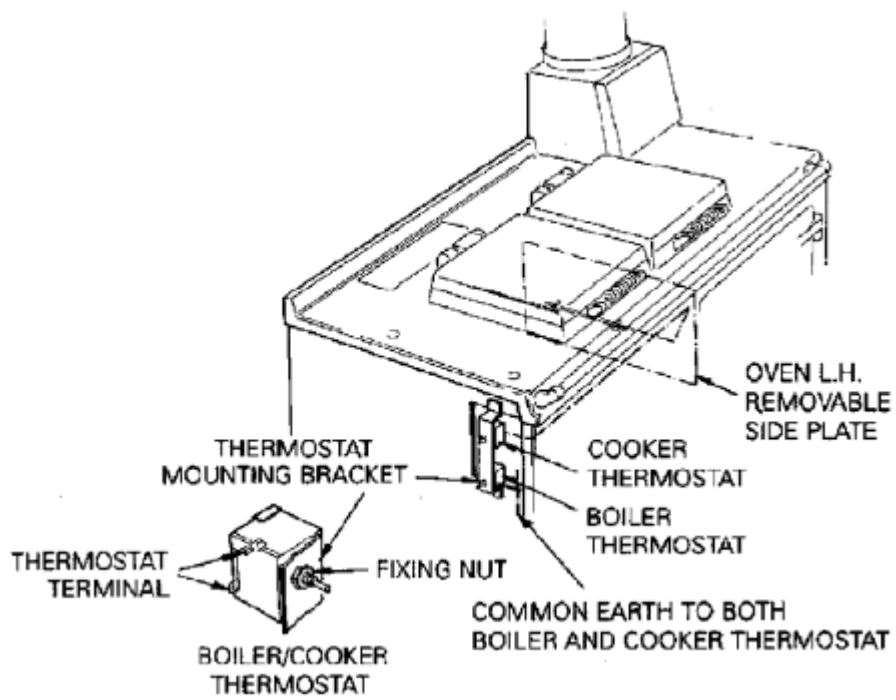

Fig.24 DESN 511022
#### **To Remove Cooker Thermostat - See Fig.24**
- e. Open top oven door and using a screwdriver, remove two fixing screws securing inner L.H. side to expose the located thermostat phial - See Fig.24.
#### **To Remove Boiler Thermostat - See Fig.24**